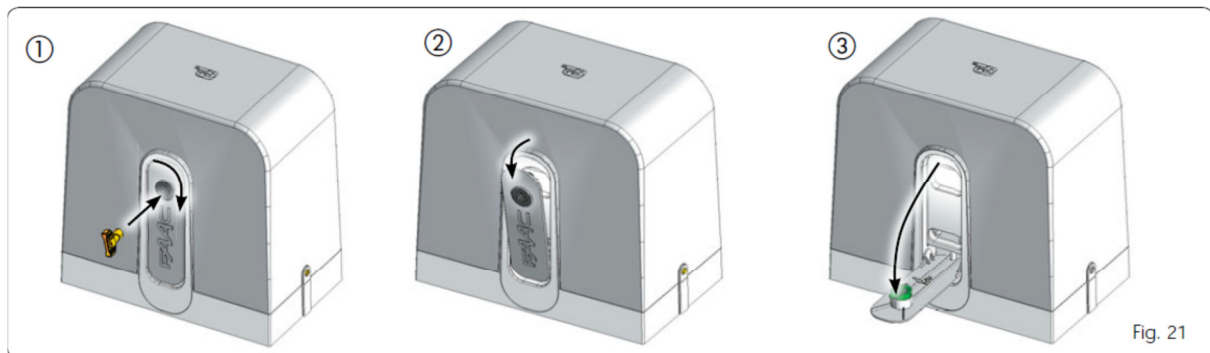

Fig. 21
1. Turn the release clockwise as shown in Fig. 21 re. ①. The release lever will move slightly away from the operator body (Fig. 21 re. ②).
2. Fully lower the release lever to the mechanical stop (Fig. 21 re. ③).